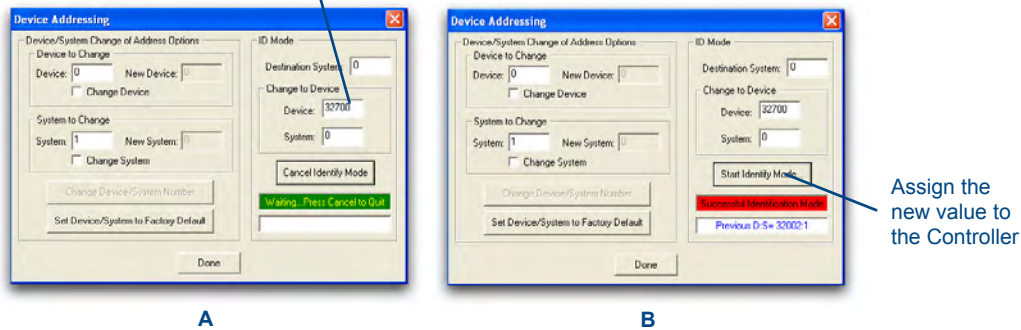

FIG. 18 Device Addressing dialog (using the ID mode to set the NI Controller device value)
1. Access the Device Addressing dialog (FIG. 18) by selecting **Diagnostics > Device Addressing** from the Main menu.
2. Locate the *Device* field (A in FIG. 18) and enter the new value for the NI Controller. **This value must fall within a range of 0 - 32767.**